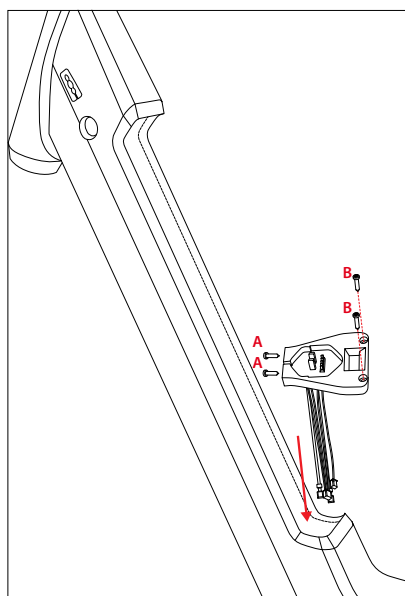

Figure 4.32 Battery socket assembly
1. Install two M3x8 fasteners [A] on the bottom side of the battery socket (Fig. 4.32)
2. Route the wires to the hanger (Fig. 4.32).
3. Mount the battery socket to the frame using two 2.9 x 25 mm self-tapping fasteners [B] (Fig. 4.32). Tighten the fasteners to 0,7Nm